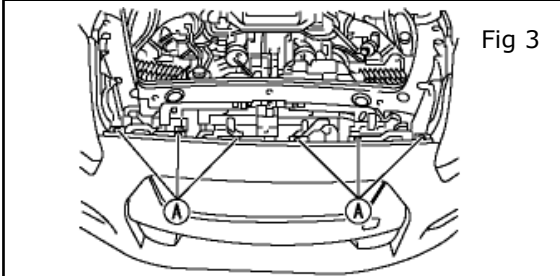

Fig 3
Remove the clips (A) from the top surface of bumper. Shown in Fig 3.